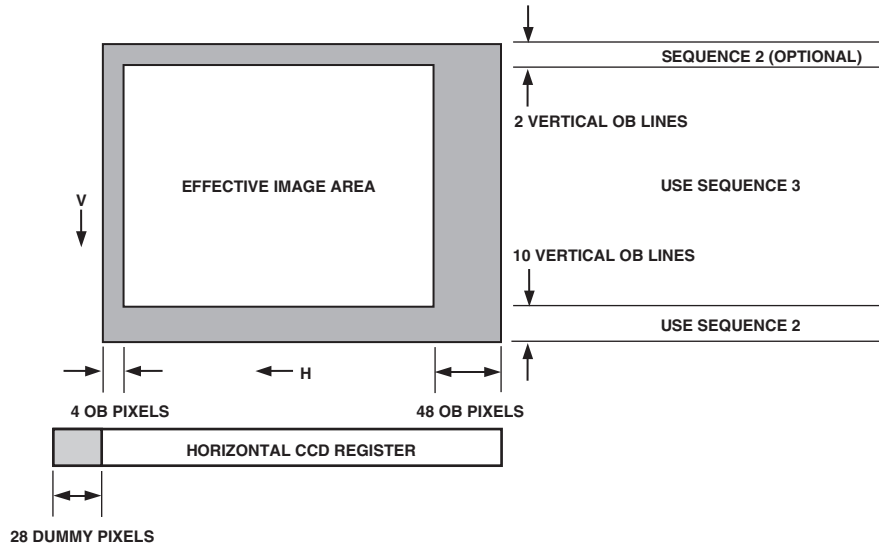

Figure 24. Example CCD Configuration
Figure 24 shows an example CCD layout. The horizontal register contains 28 dummy pixels, which will occur on each line clocked from the CCD. In the vertical direction, there are 10 optical black (OB) lines at the front of the readout and two at the back of the readout. The horizontal direction has four OB pixels in the front and 48 in the back.